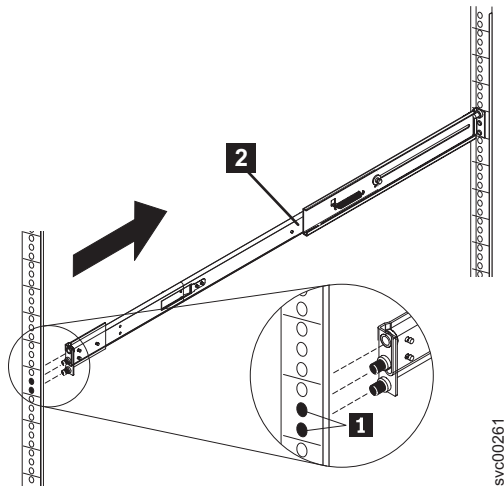

Figure 114. Removing the right slide rail from the front of the rack
3. Push the rail pins **1** out of the front rack mounting flange, as shown in Figure 114, to shorten the right slide rail and remove it from the front flange. Then pull the right slide rail forward to remove the slide rail from the rear rack mounting flange. Remove the left slide rail in the same way.